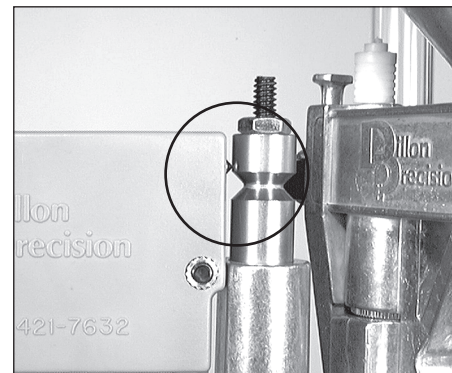

FIG 144
1. Place a primed but empty case (case with no powder) into Station 3 and raise the platform. The contact pin is above the groove FIG 144 (the alarm sounds) indicating that the case has a low or no charge.